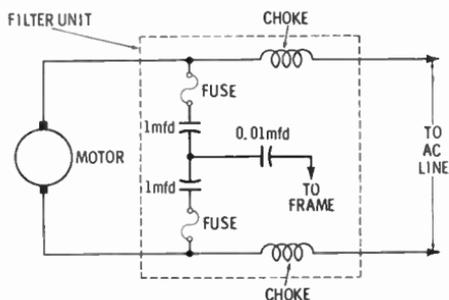

Fig. 6. Interference-suppressor filter added to a washing machine.
**It Is Desired To Eliminate Radiation Interference Caused by a Washing Machine. How May This Be Accomplished and What Are the Component Values?**—This trouble can usually be eliminated by connecting a filter unit as shown in Fig. 6. Necessary precautions should be observed that the values of the filter do not exceed those given, also that the voltage and frequency of the source are similar to those of the manufacturer's marking on the filter parts.